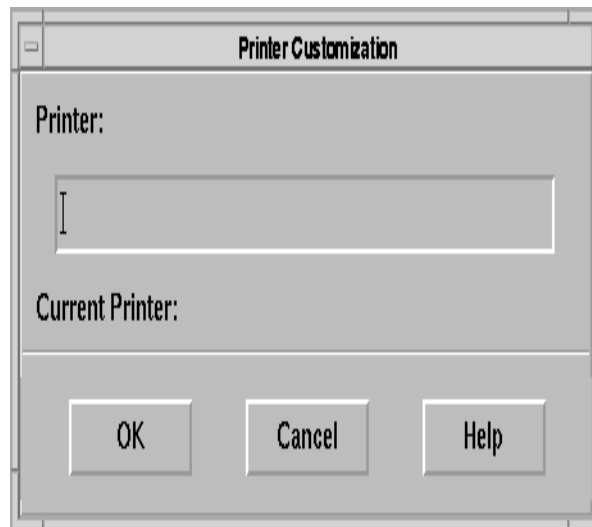

Figure 7.4.4-1. Printer Customization Window
1. **Open the Printer Customization window (see Figure 7.4.4-1).**